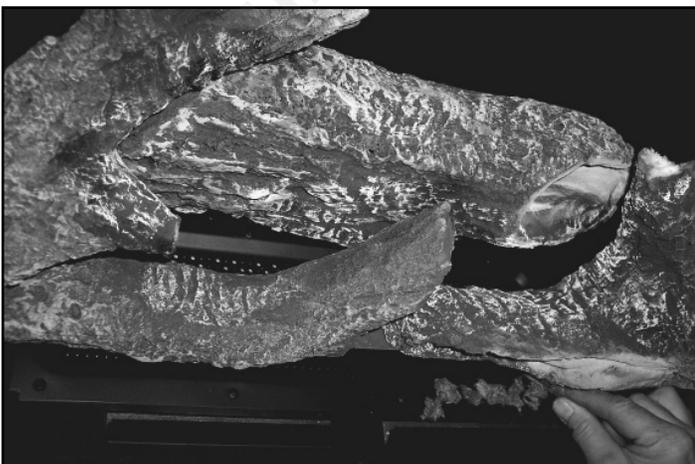

Figure 12.6 Placement of Rockwool
- Place a small amount of 1/2 in. (13 mm) diameter pieces (dime-size) of rockwool on the burner pan so that the rockwool touches but does not cover the holes in the burner pan. This will provide the “glowing embers” look. It is not necessary to use the entire bag. Save the remaining rockwool for future use. See Figure 12.6.